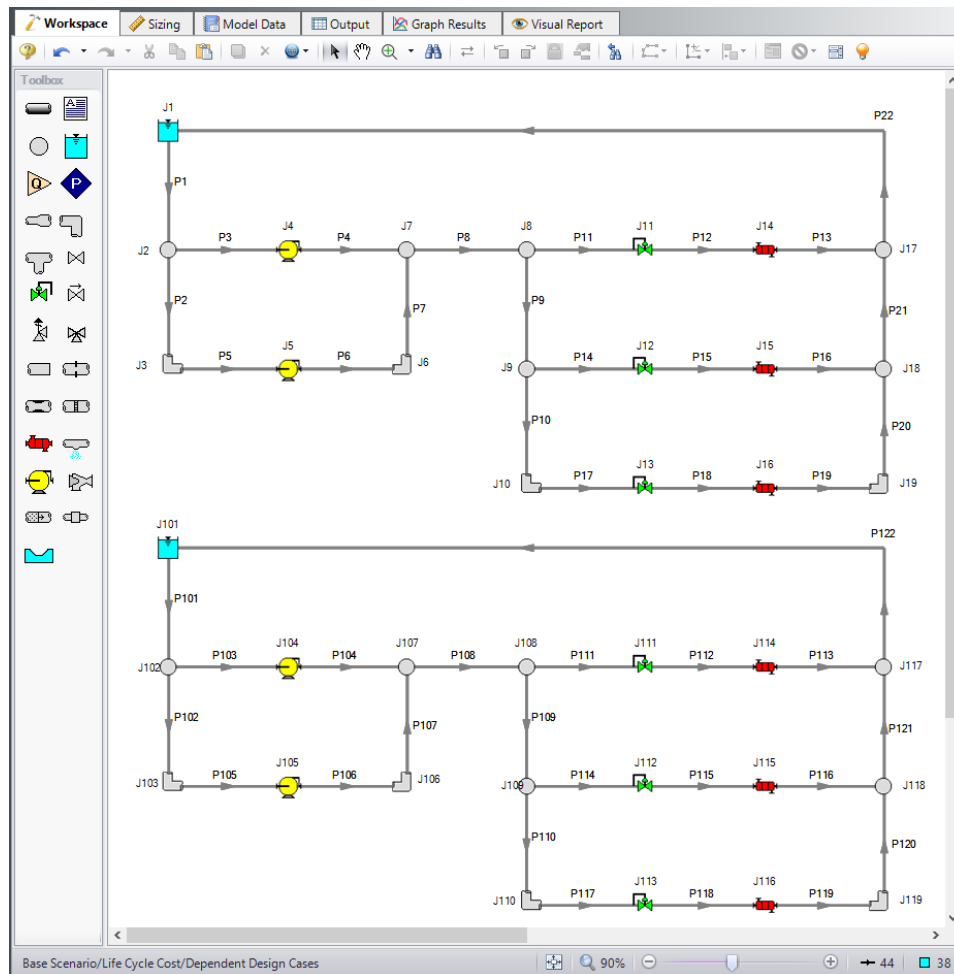

Figure 4: Workspace with the Dependent Design Case created for the Cooling System model
7. Click **OK** and move the duplicated version of the primary design case to an open area in the Workspace. The model should now appear similar to Figure 4.
The dependent design case capability takes advantage of the ANS module's ability to run multiple models in the same Workspace. The pipes and junctions in Figure 4 that are numbered greater than 100 (i.e., the dependent design case) represent the same pipes and junctions as those numbered less than 100 (i.e., the primary design case). It is therefore critically important that only certain data in the dependent case is changed.